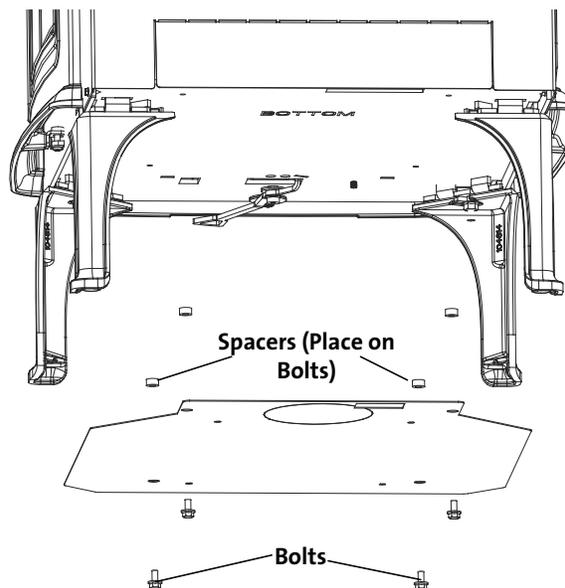

Figure 25. Outside Air Adaptor installation.
1. **Remove Bottom Heat Shield:** Use the 10 mm socket driver or wrench to remove the four bolts with spacers and the Bottom Heat Shield from the studs in the stove bottom as shown in fig. 25.